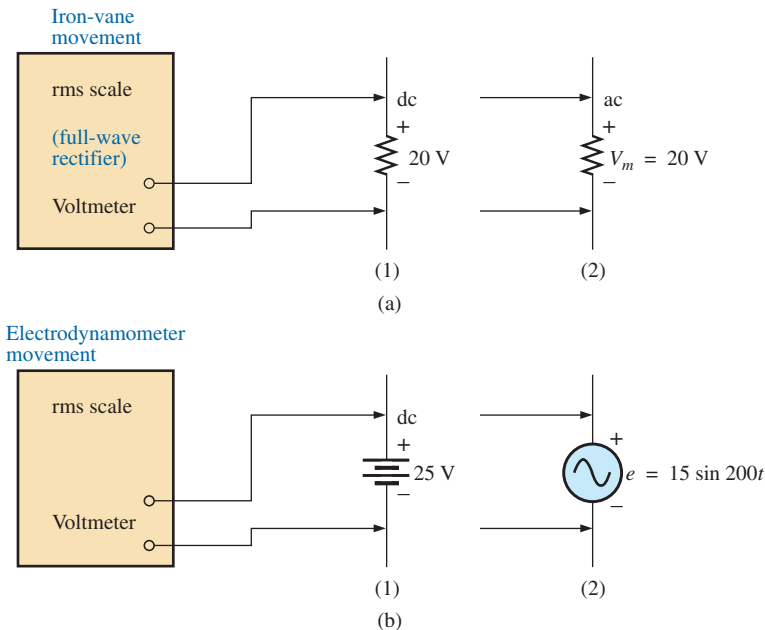

FIG. 13.78
EXAMPLE 13.25 Determine the reading of each meter for each situation in Fig. 13.78(a) and (b).
Solution: For Fig. 13.78(a), situation (1): By Eq. (13.36),
For Fig. 13.78(a), situation (2):
For Fig. 13.78(b), situation (1):
For Fig. 13.78(b), situation (2):